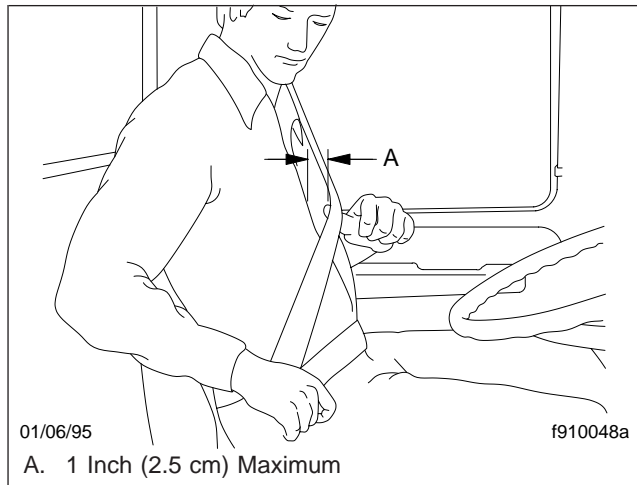
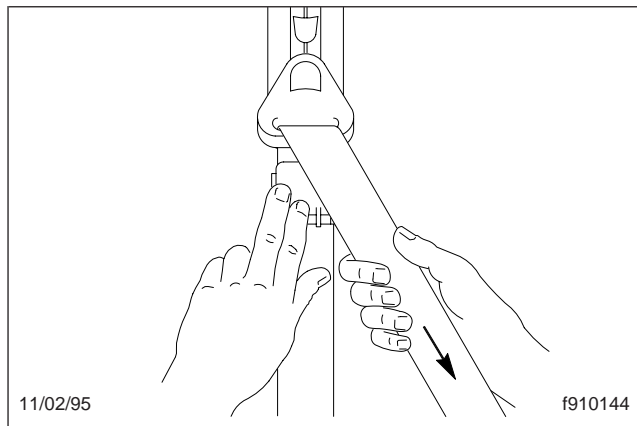

Fig. 3.15, Adjusting Shoulder Harness Clearance
Fig. 3.16, Locking the Komfort Latch
4. If desired, engage the Komfort Latch. See Fig. 3.15 to adjust the shoulder harness and Fig. 3.16 to lock the Komfort Latch.